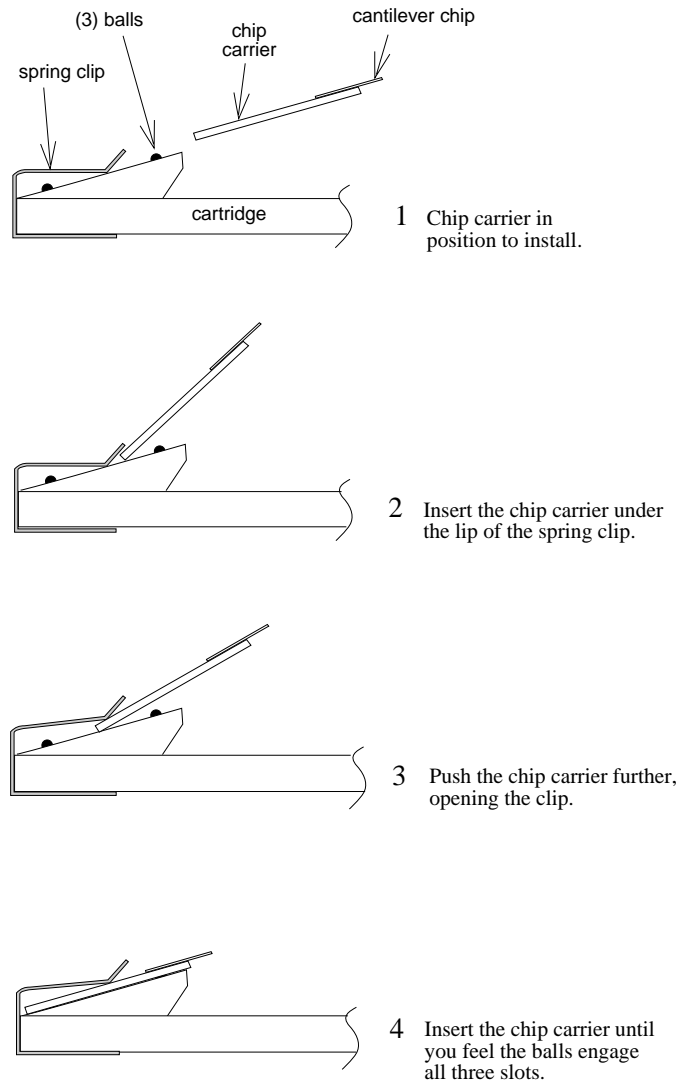

Figure 2-14. Procedure for inserting the chip carrier under the spring clip.
6. Using the procedure illustrated in Figure 2-14, insert the chip carrier under the lip of the spring clip. Use either a flat edge or a corner of the ceramic plate to force the spring clip open. Then slide the chip carrier under the spring clip until you feel the balls engage the slots. Wiggle the chip carrier from side to side to ensure that *all three balls* fit snugly.